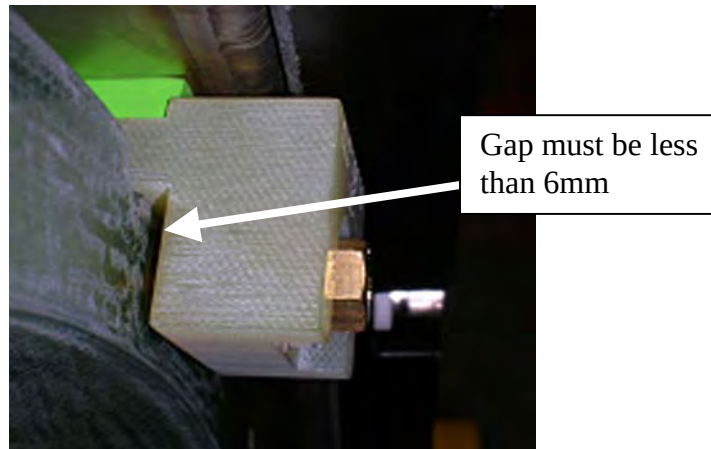

Figure 59 – Check gap of Wedges
- BB. Check that all the wedges have no greater than a 6 mm (3 +/- 3) gap between the wedge and either gradient or magnet interface ring. **(Fig 59)**